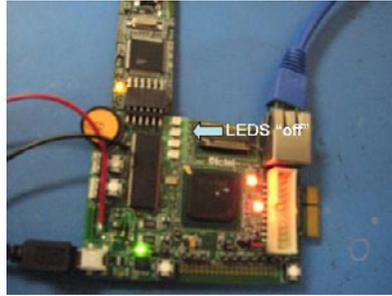
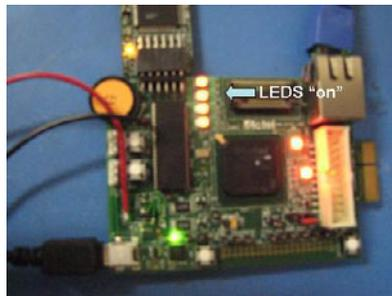

Figure 2-11 · LEDs Off
Figure 2-12 · LEDs On
12. Watch the board LEDs. They will blink on and off several times. Figure 2-11 shows the LEDs off; Figure 2-12 shows the LEDs on.